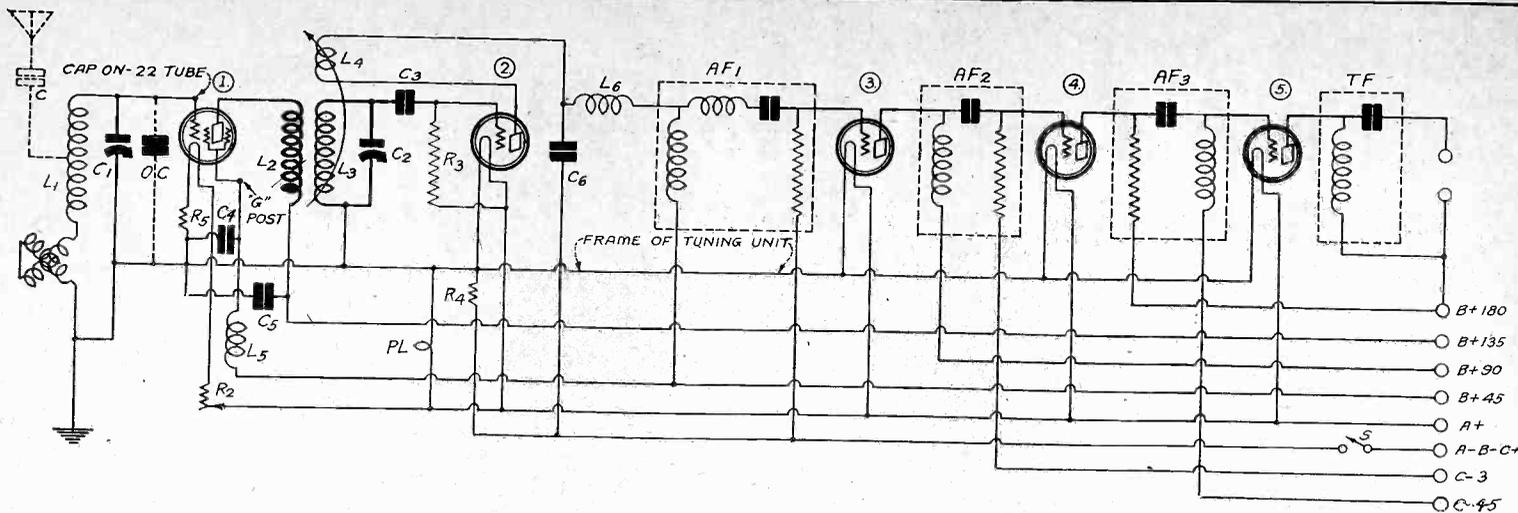

FIG. 709
(1)—See Fig. 709 for a diagram of the National Screen Grid Five.